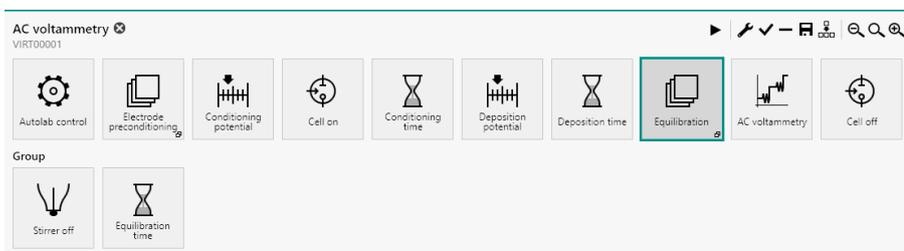

Figure 648 The Equilibration group
- **Equilibration:** this command group is used to create an equilibration step in the procedure. The commands in this group are used to switch the stirrer off and wait for the specified amount of time (see Figure 648, page 536).